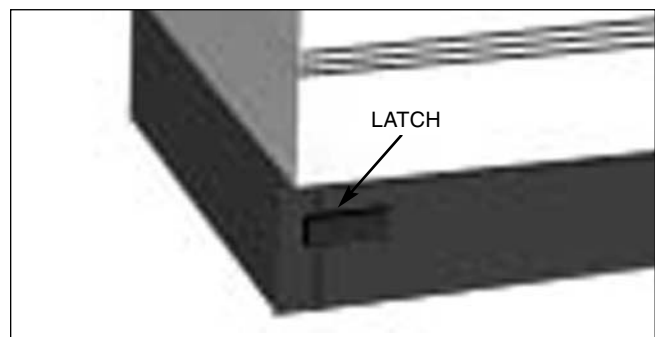

FIGURE 1-6, Coolant Reservoir
5. Check to be sure that two latches on front of machine are securely latched (see Figure 1-6).